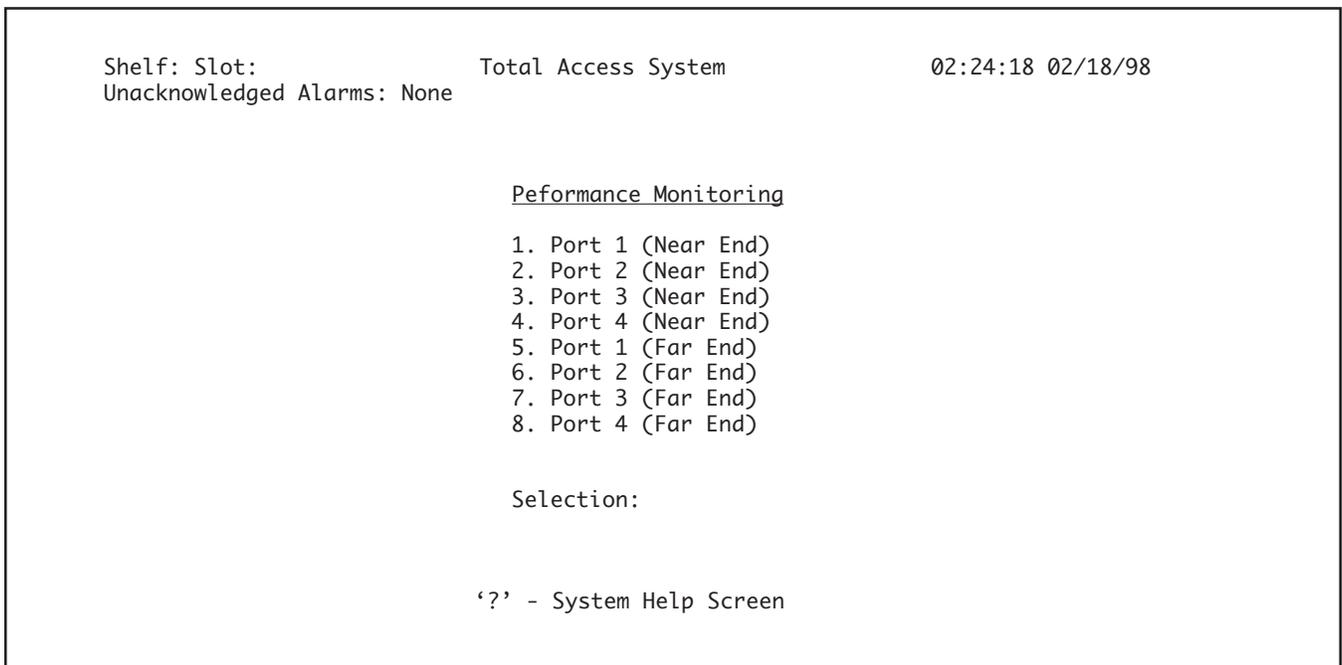

Figure 32. Performance Monitoring Screen
1. From the QFO-C Main Menu screen, type 6 and press Enter to select Performance Monitoring. The Performance Monitoring Screen (**Figure 32**) will appear.